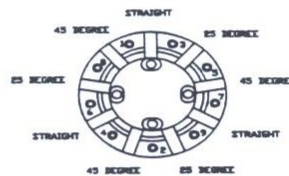

fig. 13
1. Teeth should be installed according to the pattern shown in figure 13 above.